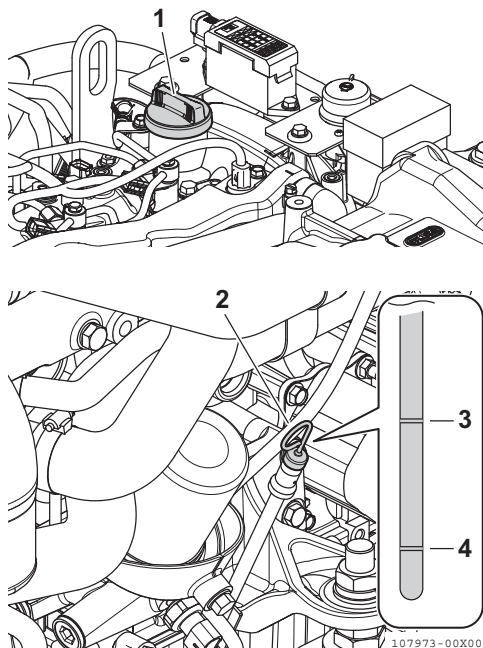

Figure 6
2. Remove dipstick (**Figure 6, (2)**) and wipe with clean cloth.
4. Remove dipstick. The oil level should be between upper (**Figure 6, (3)**) and lower (**Figure 6, (4)**) lines on the dipstick.
1. Remove the oil filler port cap from filler port (**Figure 6, (1)**) and fill with engine oil.
2. Fill with oil to the upper limit (**Figure 6, (3)**) on the dipstick (**Figure 6, (2)**).